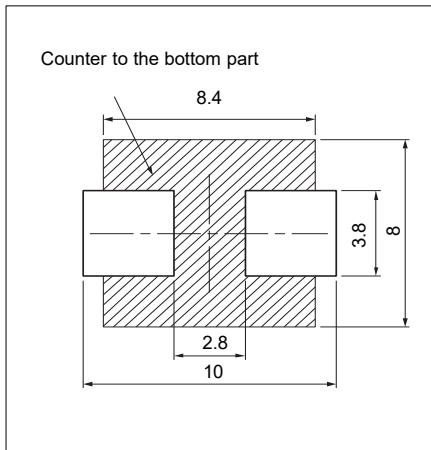
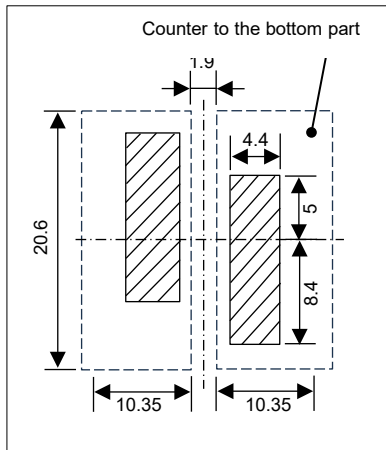

Fig.1
Fig.2
- Do not form a pattern, via, etc., on the counter to the bottom of the inductor. (MC series/\* Fig.1, Dust type/\*Fig.2)